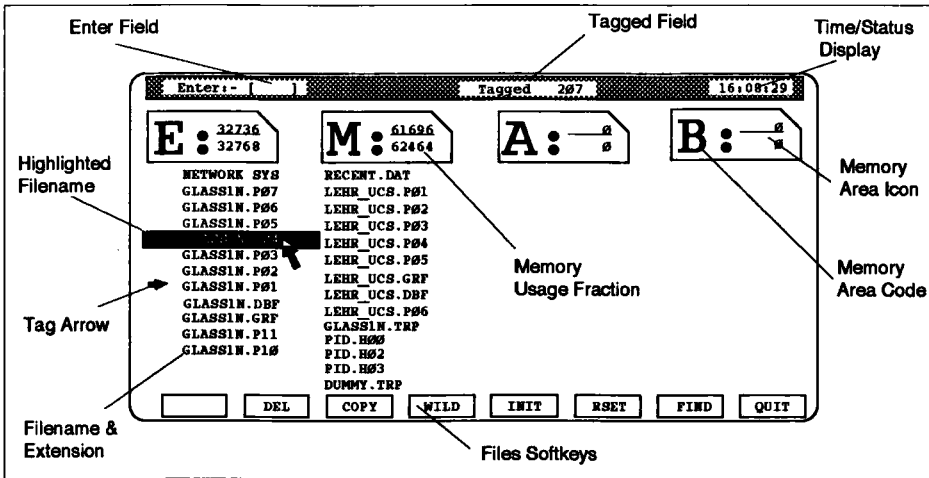

Figure 11.1 T1000 FILES Screen
Figure 11.1 shows a typical FILES screen. Note that a limited version of the FILES screen is accessible at runtime — the Runtime Trend Filing Page — via the PG? softkey.
**FILES Screen.** The entire FILES window is larger than the T1000 screen — scroll the display to the left to see the last three columns, and upwards to see complete lists, by moving the cursor to the edge of the display. (The right-most 'R:', 'T:', and '???:' columns are not shown in Figure 11.1.)